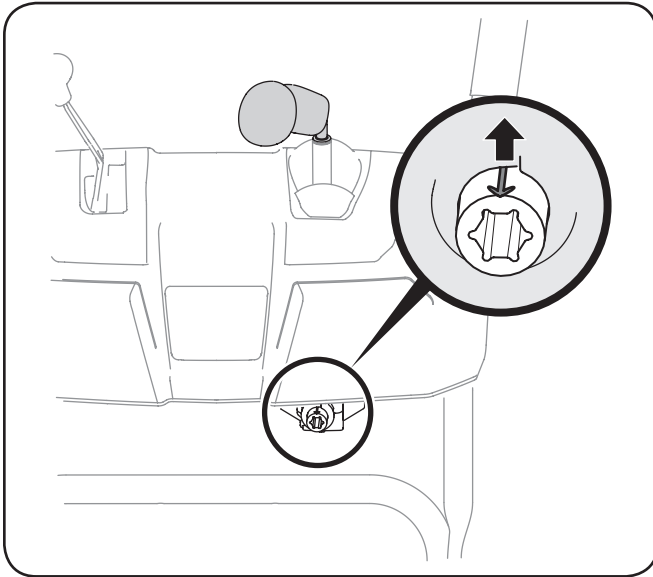

Figure 3-7
- Rotate the joystick to the one o'clock position so that the silver indicator arrow on the pinion gear below the control panel faces upward. See Figure 3-7.